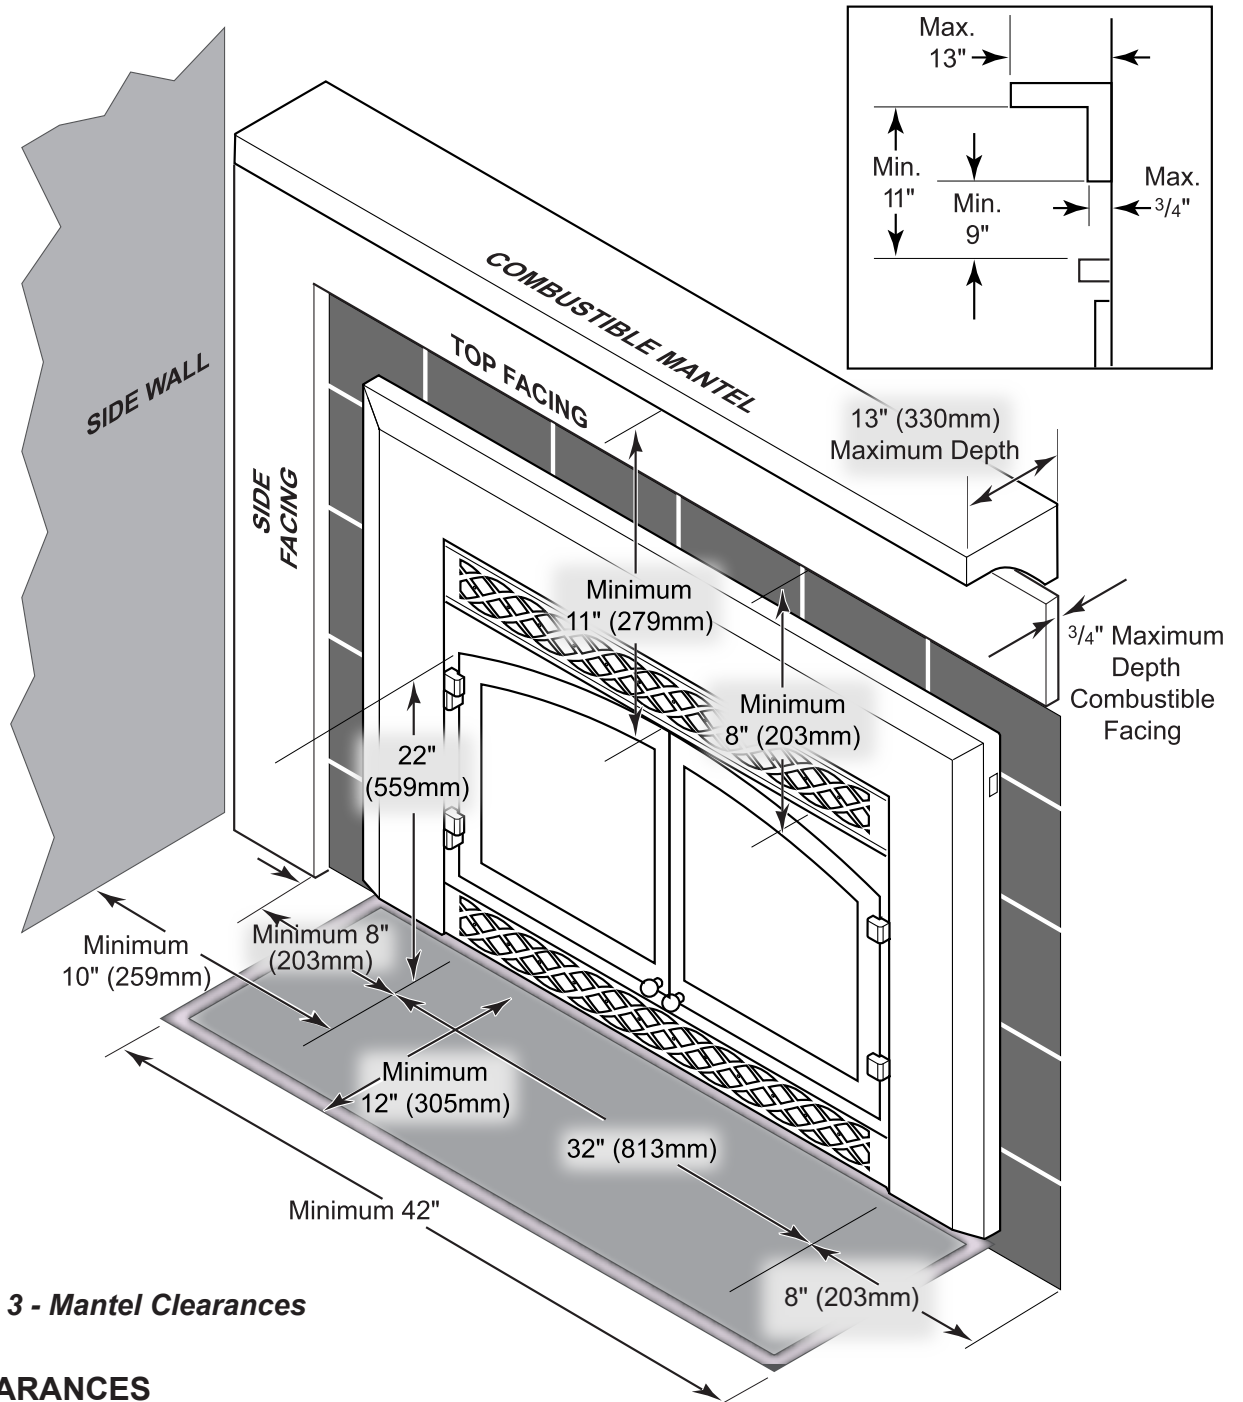

Figure 3 - Mantel Clearances
- Minimum clearances to combustibles, such as mantels, **must be maintained**. See *Figures 3 and 4, pages 9 and 10*.